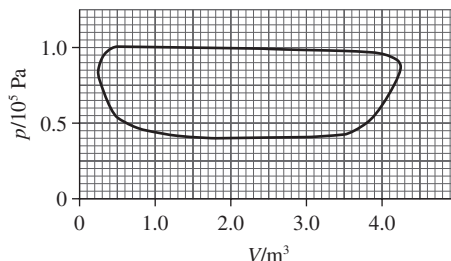

Figure 14
The p - V diagram for one particular atmospheric engine is shown in **Figure 14**.
- (a) (i) Use Figure 14 to determine the indicated work done by the engine in one cycle.